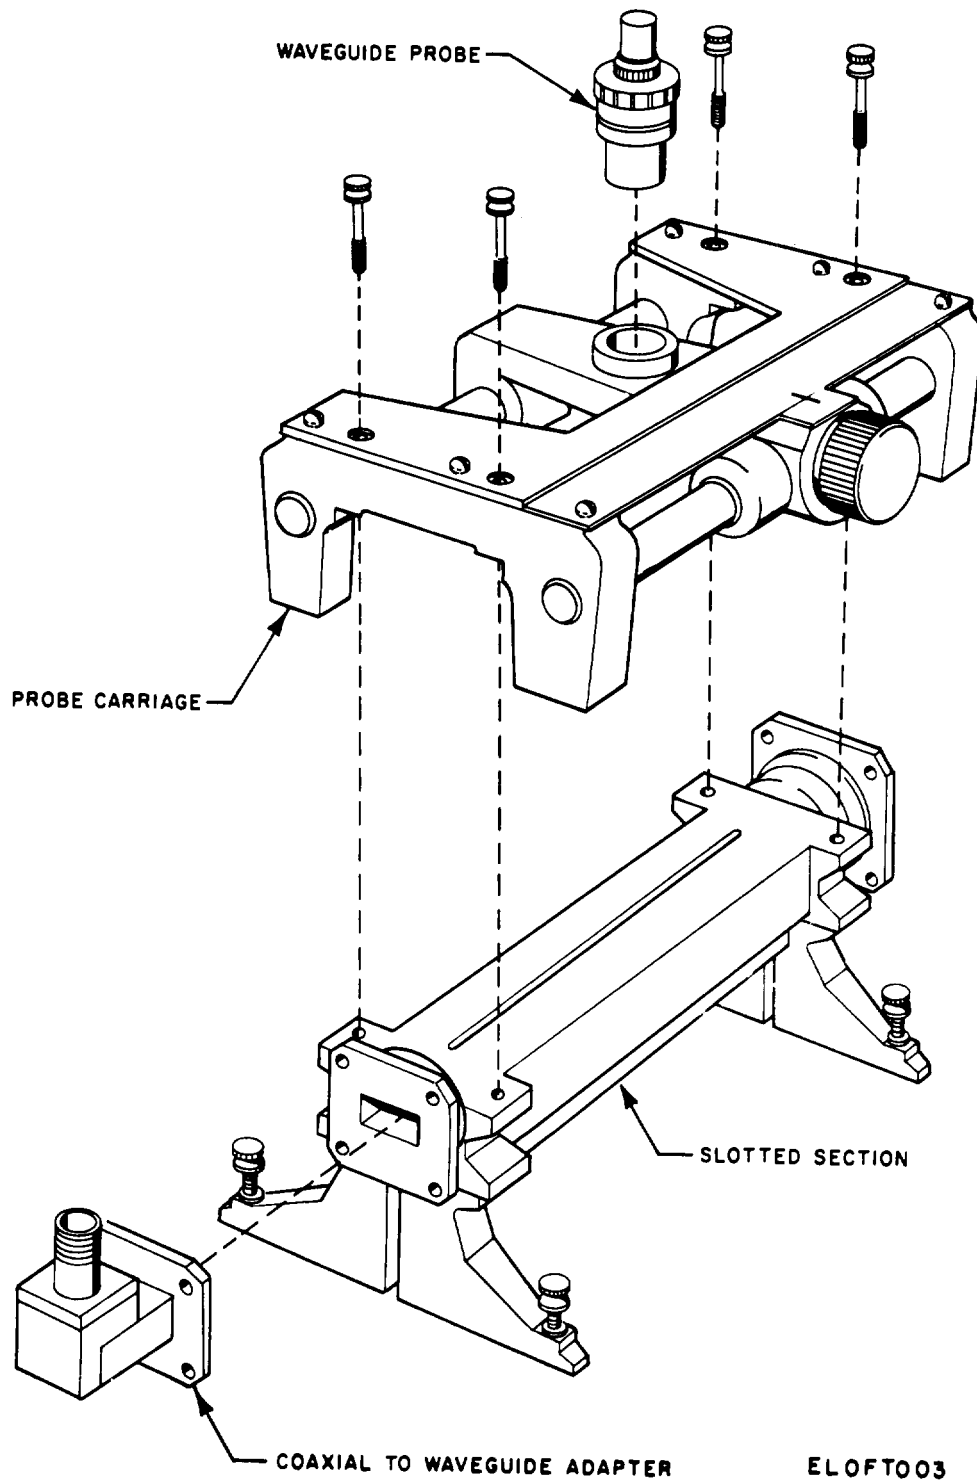

Figure 2-2. Assembly of carriage and slotted section
(1) Select the slotted section and adapters that will be required. Remove these components from the transit case.
(2) Check all joining surfaces to be sure they are clean and free of extraneous particles.
(3) Position the carriage over the slotted section, slot side up, as shown in figure 2-2.
(4) Thread the thumbscrews on the end frames of the carriage into the slotted section mounting holes evenly and not more than finger tight.
(5) Move the traveling carriage from end to end. The carriage should roll evenly and freely with no binding or changing of level. If the carriage does not roll parallel to the top surface, check the mounting of the waveguide section to be sure it is not tilted.
(6) Adjust the thumbscrews of the four mounting feet of the slotted section so that each foot provides equal support of the carriage. If additional sections of waveguide are to be fastened to the slotted section they should have their own support. Do not depend on the coupling flanges for support of adjacent waveguide sections. To do so apply strain that impairs measurement accuracy.